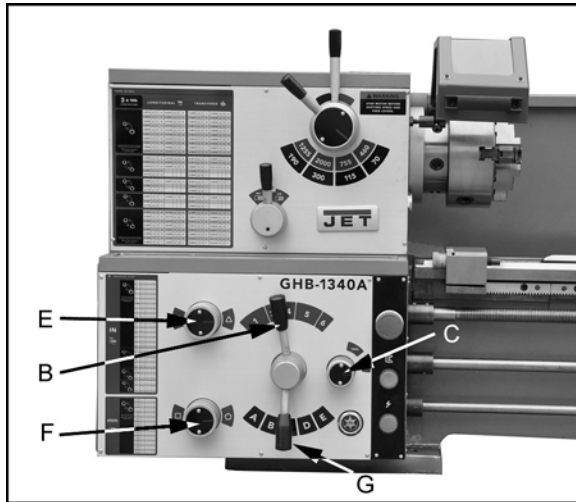

Figure 19
2. Set the selector handle (B, Fig. 19) to the "3" position and turn knob (C, Fig. 19) counter-clockwise so the arrow is pointing up to start the feed rod rotating.
1. Set feed rate selectors (B, E, F, G, Fig. 19) in proper position for the correct feed rate of the thread pitch to be cut.
2. Move knob (C, Fig. 19) to the "0" position to disengage the feed rod.